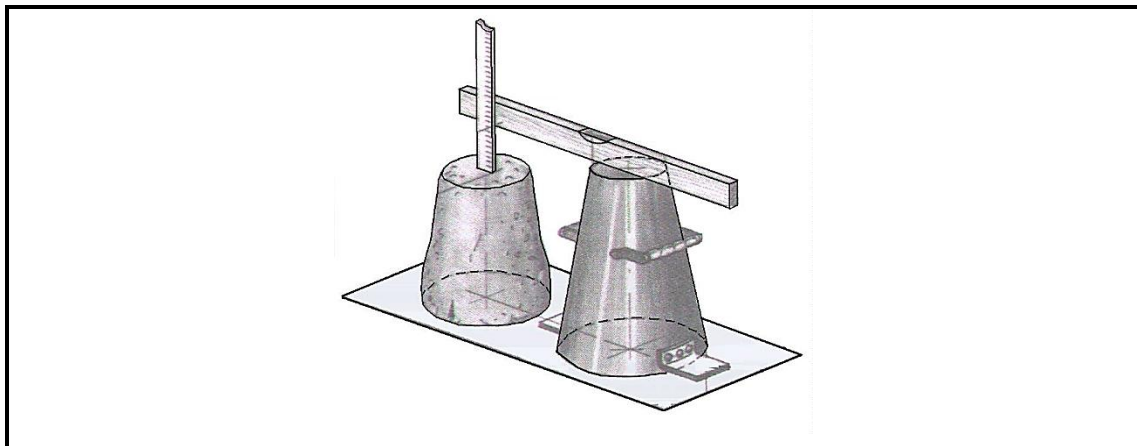

FIGURE 4.2
- 4.2 Answer the following questions regarding the test in FIGURE 4.2.
- 4.2.3 Identify ONE type of tool or equipment used in FIGURE 4.2. (1)